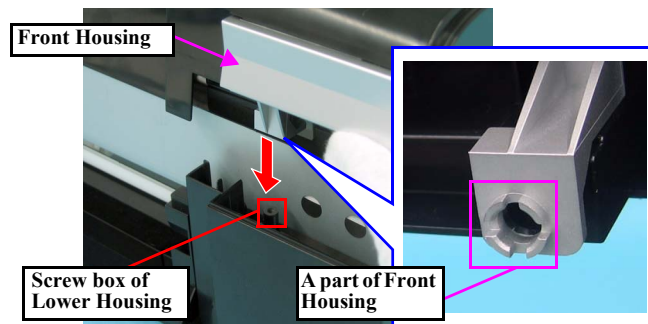

Figure 4-16. Installing Upper Housing
- As shown in Fig.4-16, match the A part of the Front Housing with the screw box of the Lower Housing.